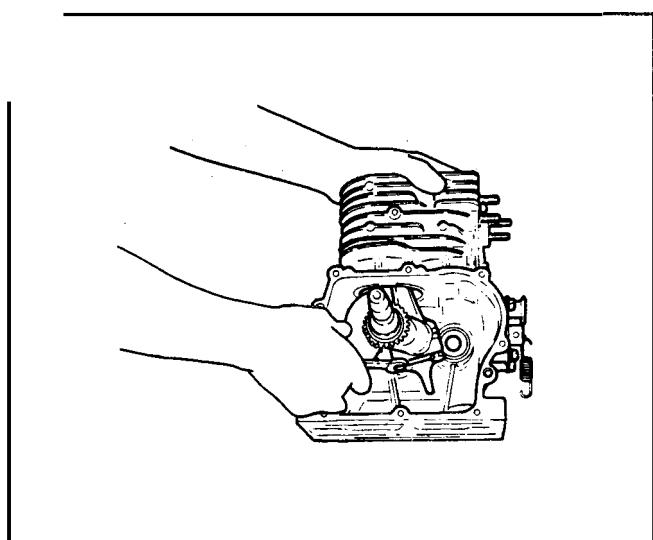

Figure 79
37. Remove the connecting rod nuts, splasher plate (with locking tabs) and rod cap. Please take note of the orientation of the rod cap for proper reinstallation. See Figure 79.